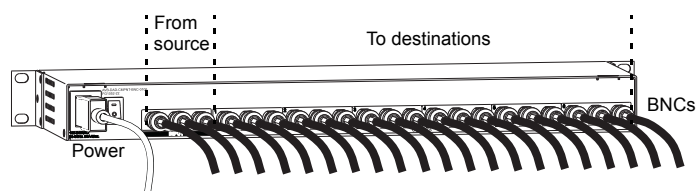

FIG. 6 Attach input and output connectors (model with BNC connectors shown)
1. Fasten the BNC or RCA connectors from source and destination devices onto BNC or RCA connectors on module (FIG. 6 shows BNC connectors).